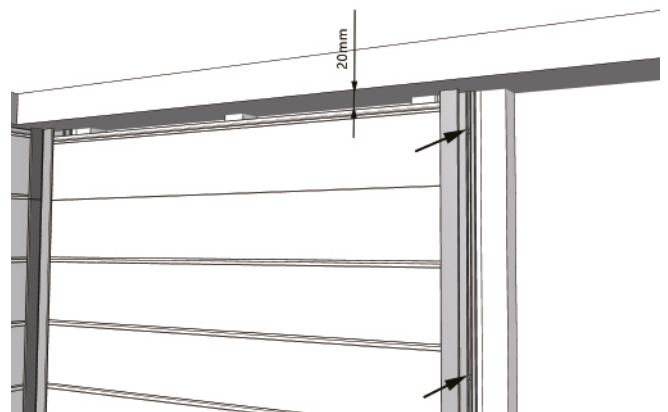

Fig12-1
1. To install f-node, snap HLYC-013F into the installed wall plate and pre-drill the holes in the screw recess on the other side of HLYC-013F before fixing the screws. As shown in Figures 12-1 and 12-2: